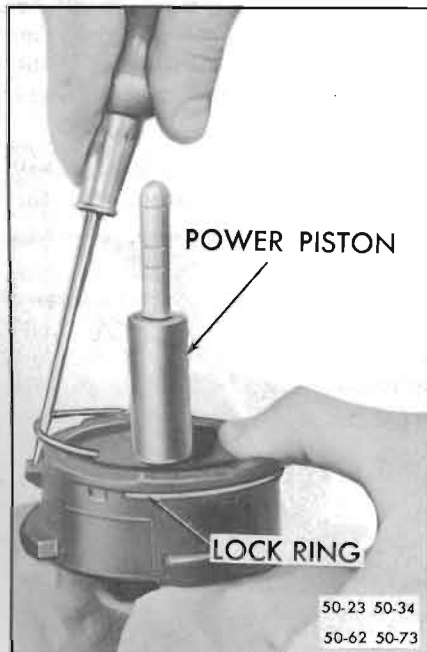

Figure 50-62—Removing Locking Ring From Power Piston
2. Remove the lock ring from the power piston by prying one of the ends out from under the large divided locking lug and then proceed to pull it from under the other two small locking lugs on the power piston. See Figure 50-62.
3. Remove the reaction retainer, piston rod, reaction plate, three (3) reaction levers and air valve spring. Also remove the small